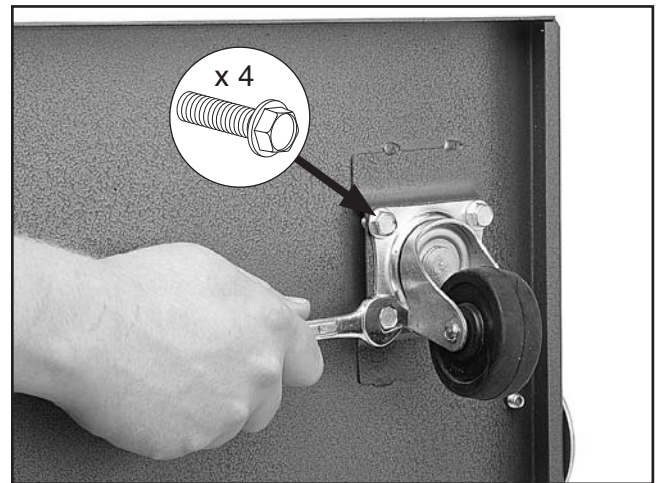

Figure 23. Mounting casters to base.
1. Mount the casters to the base plate using (16) $\frac{5}{16}$ "-18 x $\frac{1}{2}$ " flange bolts, as shown in **Figure 23**.